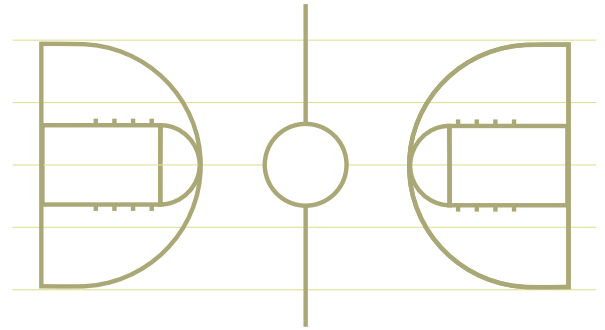

Figure 2
- Apply a band of Eperm Epox around all vertical abutments such as columns, doorways, or other vertical abutments that will not be covered with a resilient base or shoe moulding if this is a permanent installation (see figure 2).